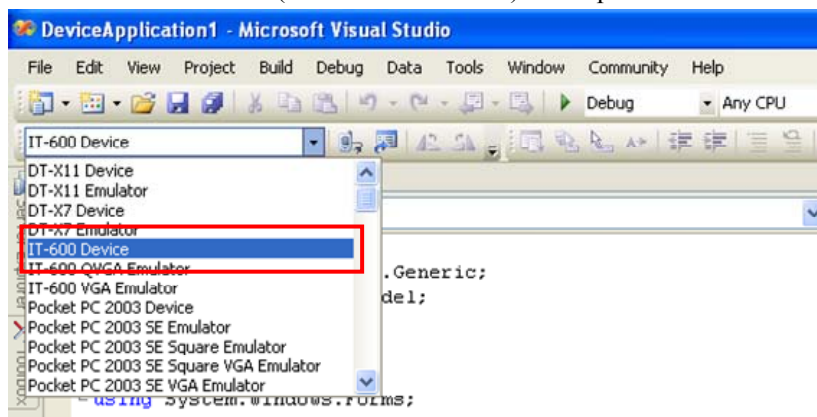

Figure 6.3
4. Choose **IT-600 Device** (or **DT-X11 Device**) in the pull-down menu box in Figure 6.3.